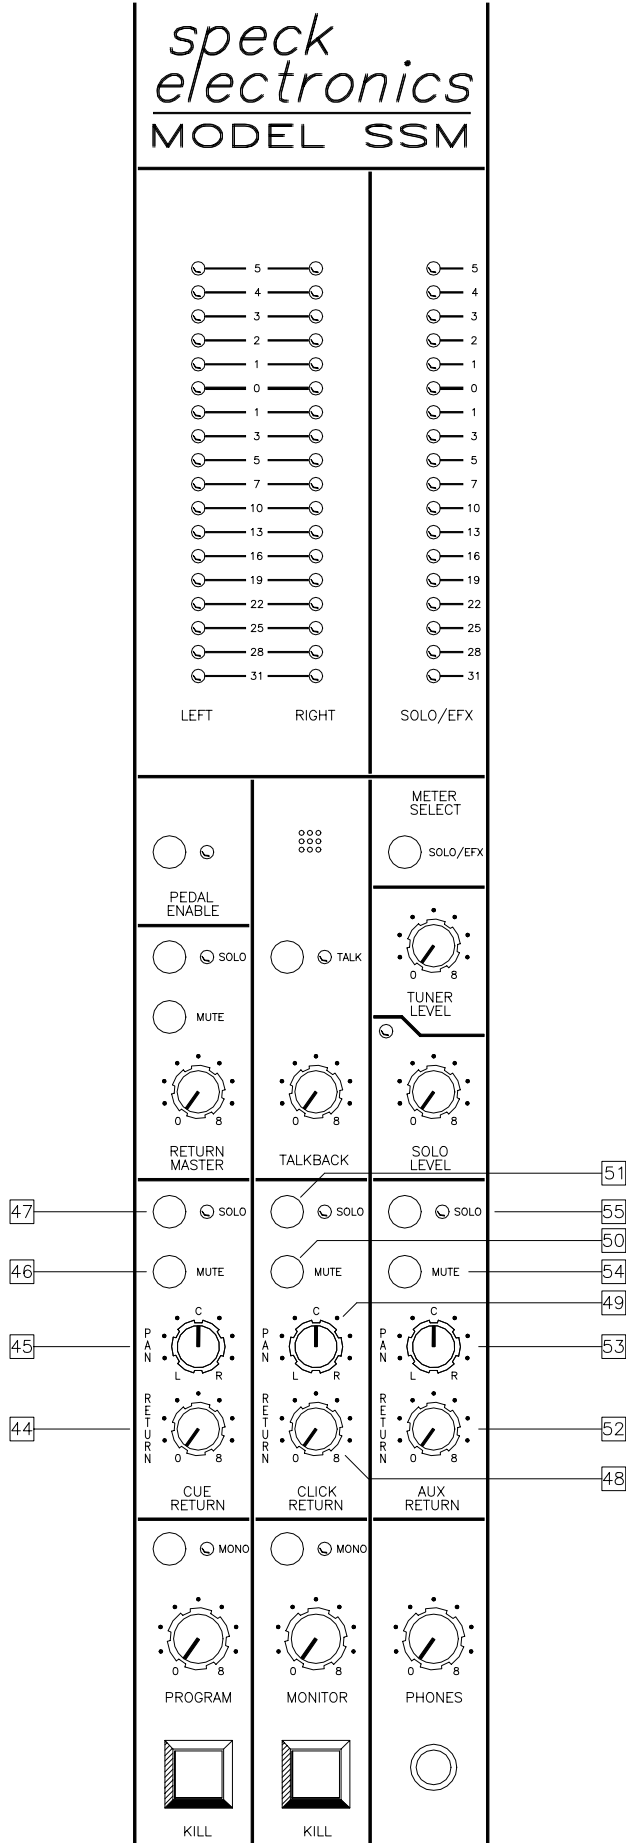

Figure 6. Cue, Click, Aux Return Sections
Refer to Figure 6 for location of items 44 thru 55.